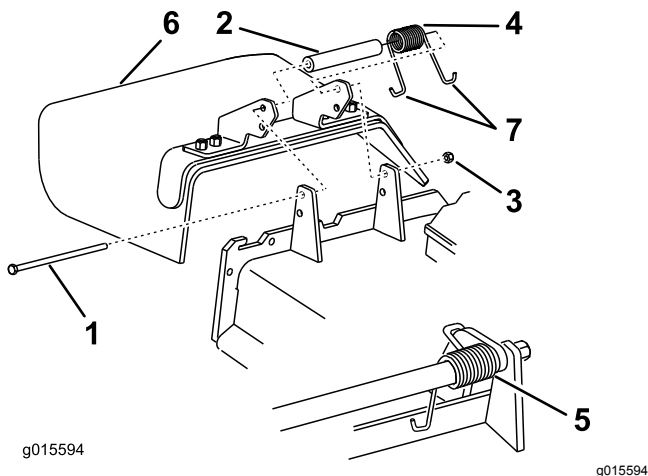

Figure 104
1. Remove the locknut, the bolt, the spring, and the spacer holding the deflector to the pivot brackets (Figure 104).
2. Remove the damaged or worn grass deflector (Figure 104).
6. Place one J-hook end of the spring around the grass deflector (Figure 104).
Note: Ensure that one J-end of the spring is installed behind the deck edge before installing the bolt as shown in Figure 104.